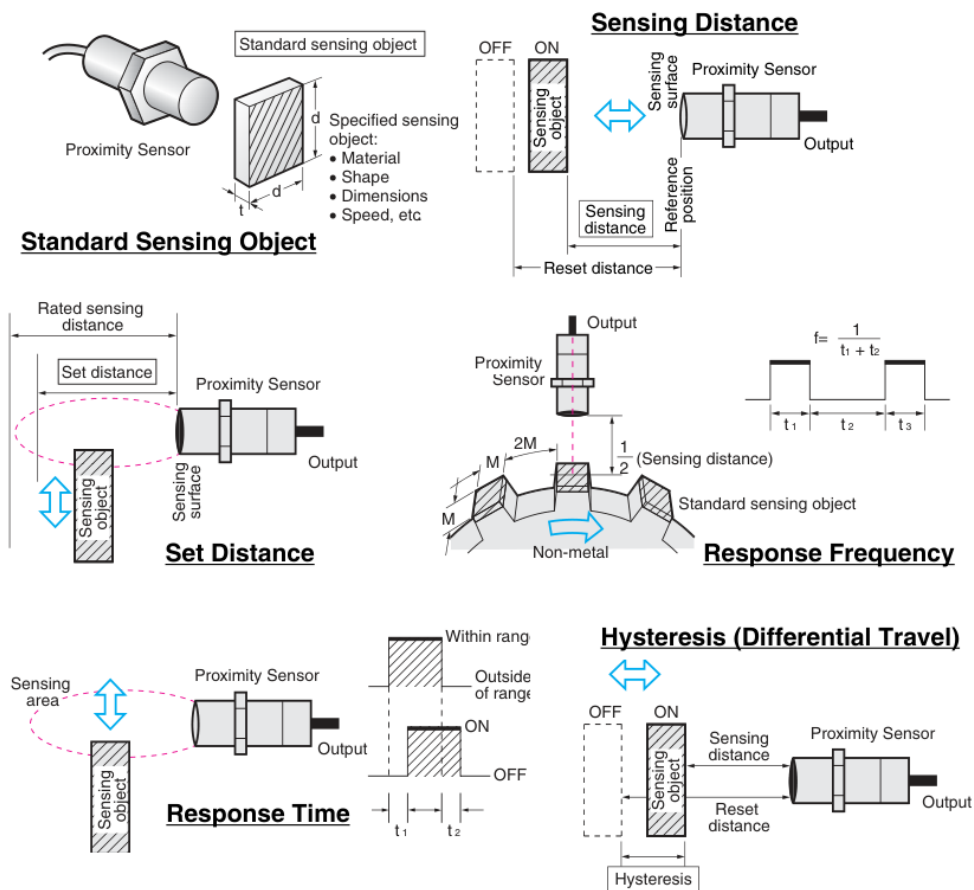

Fig.25 Explanation of terms related to proximity sensors.
6. Explanation of terms related to proximity sensors (Fig.25)